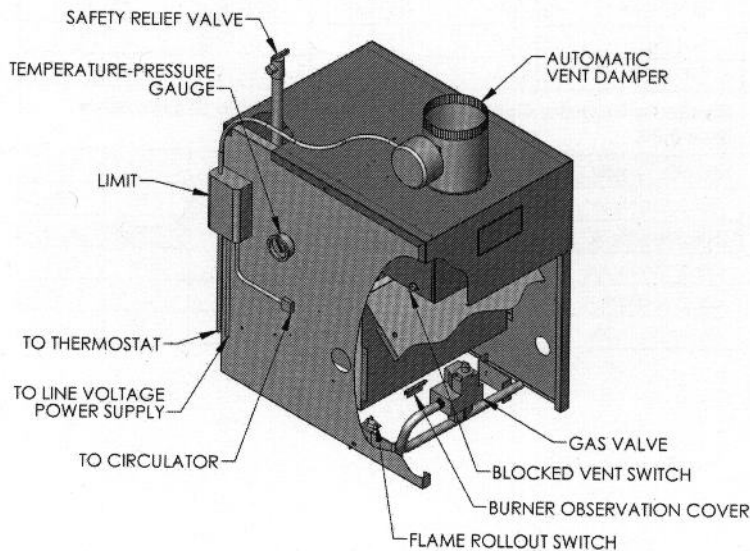
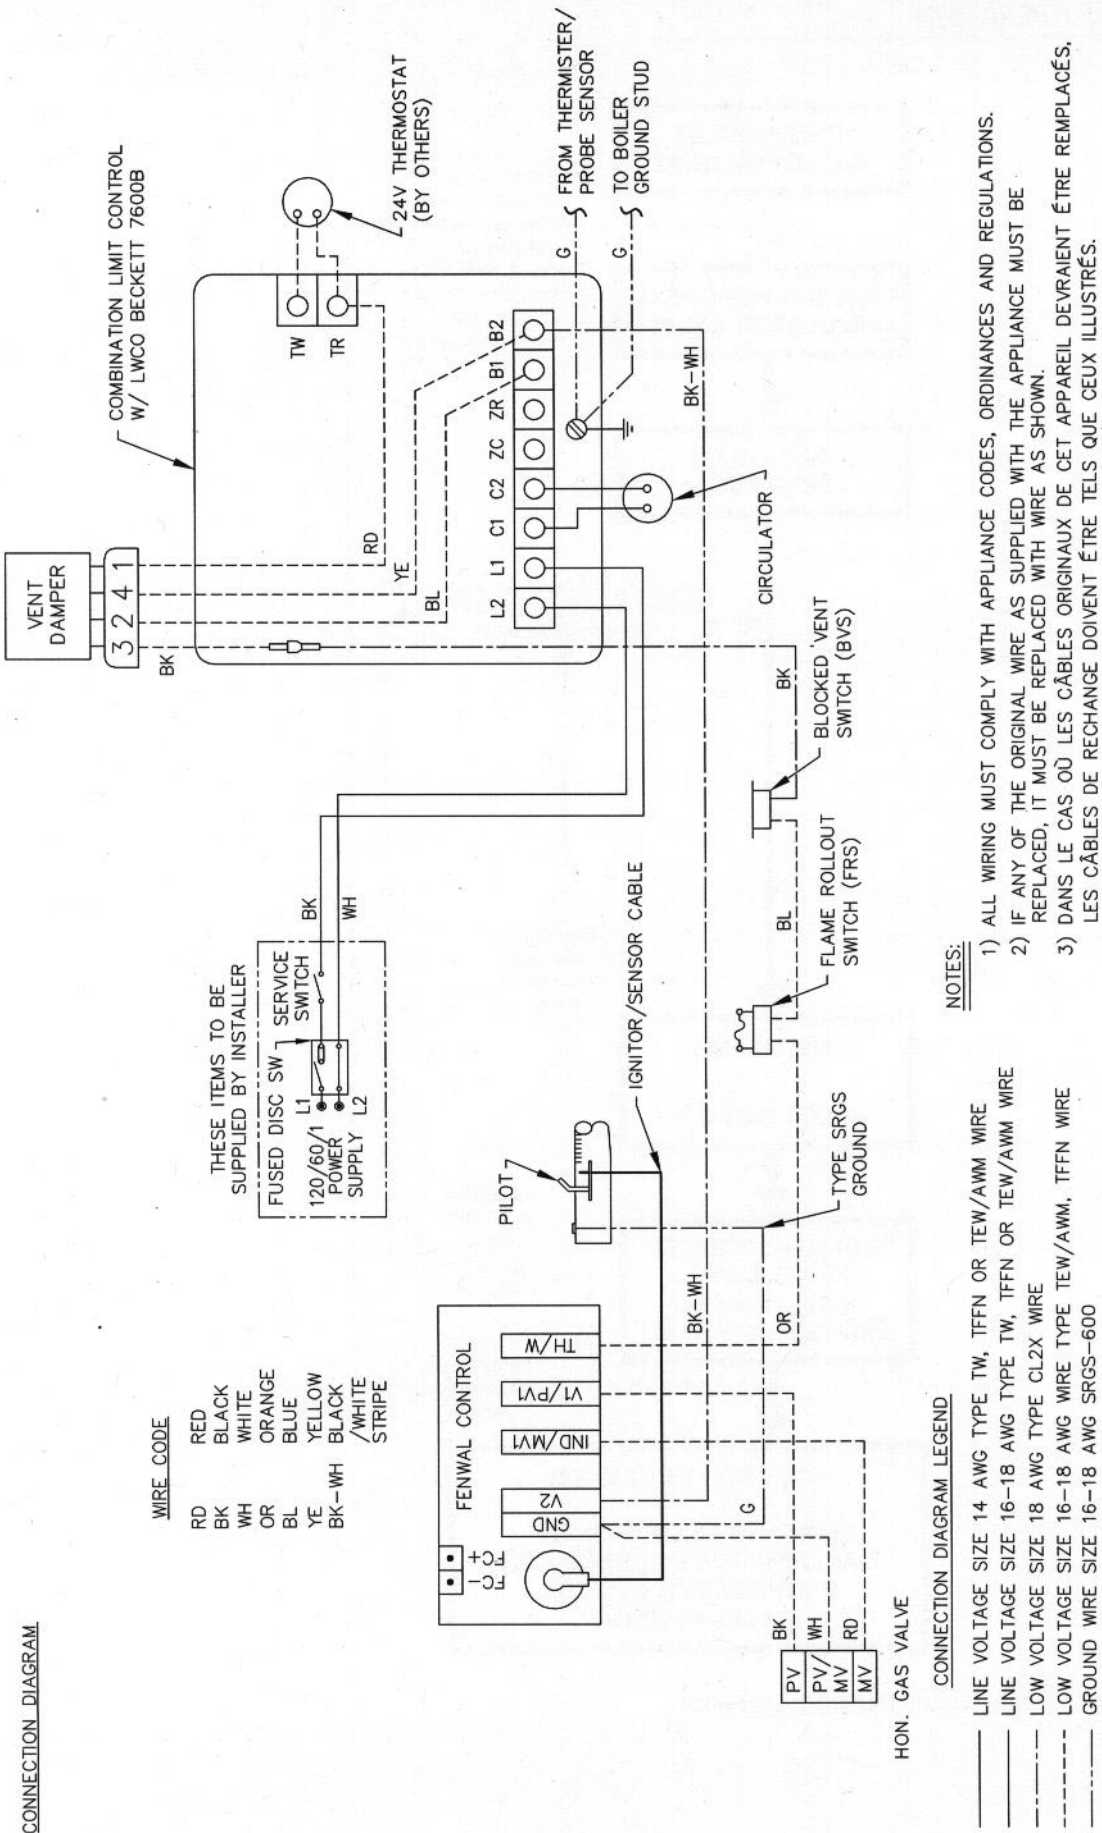

Figure 6.1: Wiring, Controls and Safety Devices
Figure 6.2: Wiring Diagram – Intermittent Ignition 7600B Control
1. See Figure 6.1 for location of wiring and controls. Use Figures 6.2 and 6.3 to connect the boiler to a power supply and to connect components to the boiler.
3. Connect the vent damper harness to the damper motor as shown in Figure 6.1.
1. For proper location of controls and accessories refer to Figure 6.1 and Section 11.
12. Use the sequence descriptions in Figures 6.2, 6.3 and 6.4 in Section 6 (Electrical) to follow light-off and shutdown sequences and to assist in diagnosing problems. If the boiler does not function properly, consult Section 8, Troubleshooting.